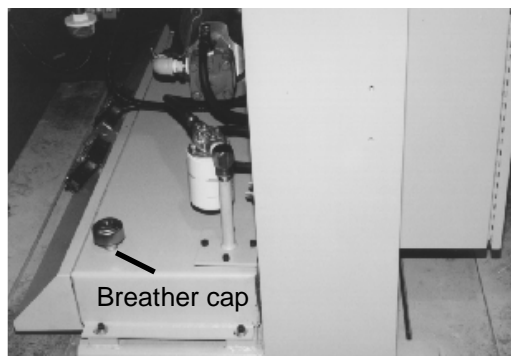

Figure 21
2. Remove the hydraulic breather cap (see Figure 21). Access the breather behind a cover plate on the hydraulic power unit cover.